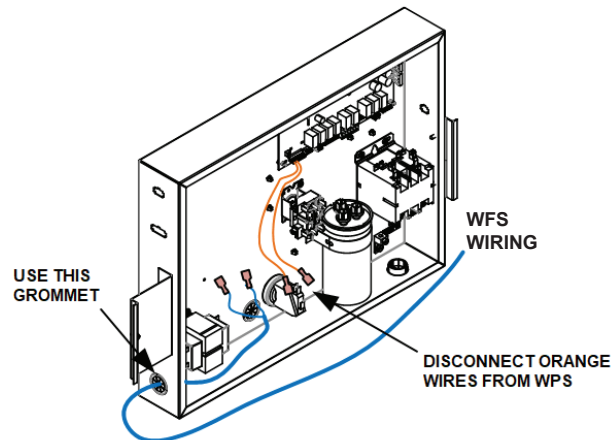

Figure 162. WFS Wire Routing into J-Box
7. Use the grommets in the control box to run wires from inside the corner post to the inside of the electrical junction box, using the grommets located next to the transformer. See Figure 162.
8. Locate the orange wires connected to the Water Pressure Switch (WPS). Proceed to disconnect the terminals from the WPS. See Figure 162.